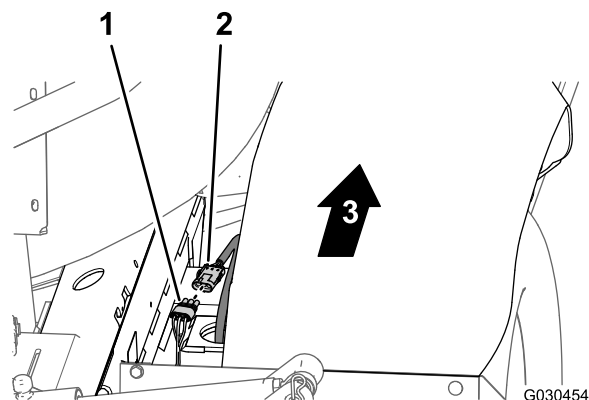

Figure 117
- At the back of the machine (between the right frame tube and the right fender) connect the 3-pin connector of the speed-sensor harness at the right hydraulic-traction motor into the 3-socket connector (unmarked) of the rear wire harness (Figure 117).